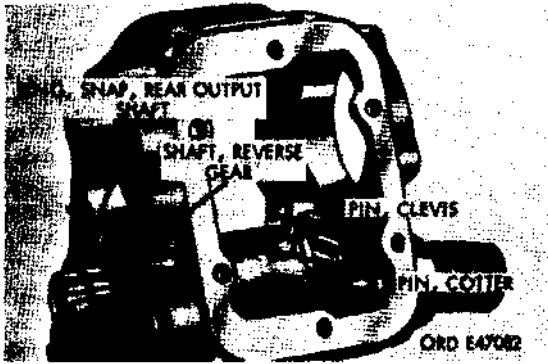

Figure 292. Removing clevis pin from reverse gear
(5) Remove reverse gear shaft
- (a) Remove rear output-shaft snap ring from splined end of reverse gear shaft (fig. 292). Remove cotter pin from clevis pin. Remove clevis pin.